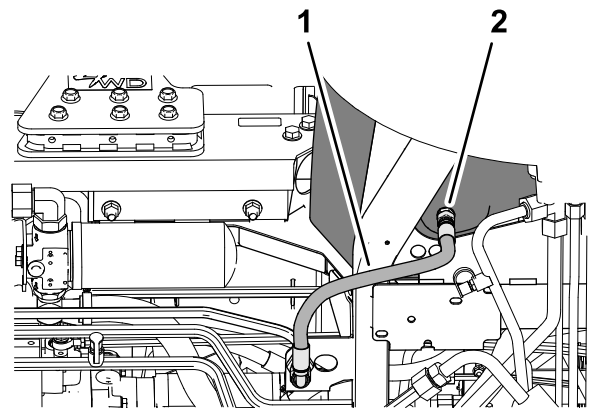

Figure 118
3. Align the drain pan under the hydraulic tank (Figure 118).